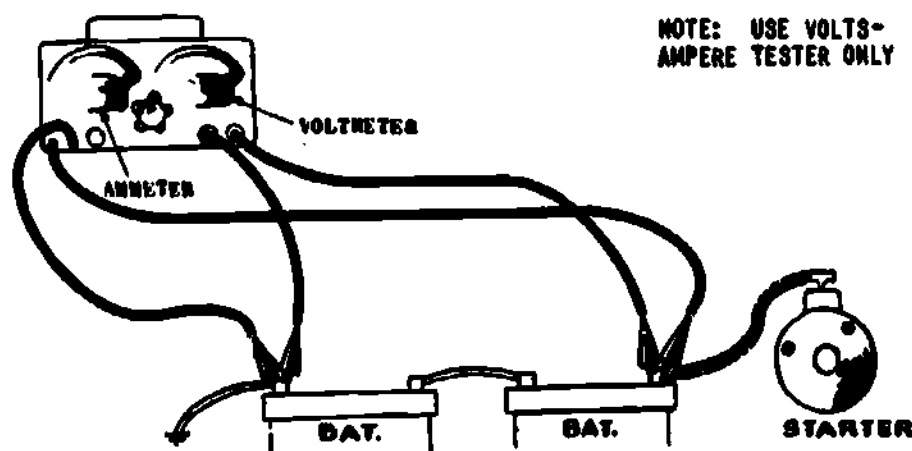

Fig 1-14. Starting motor amperage draw test.
- (a) Starting motor amperage draw test (fig 1-14). The purpose of the test is to determine the amperage draw of the starting motor. The engine must be at normal operating temperature so that the cranking load will be normal. Note in the illustration that the tester leads are connected so that if the tester controls are turned to a certain position there will be a direct short across the battery.
- Step 2. Connect the test leads as illustrated in figure 1-14.